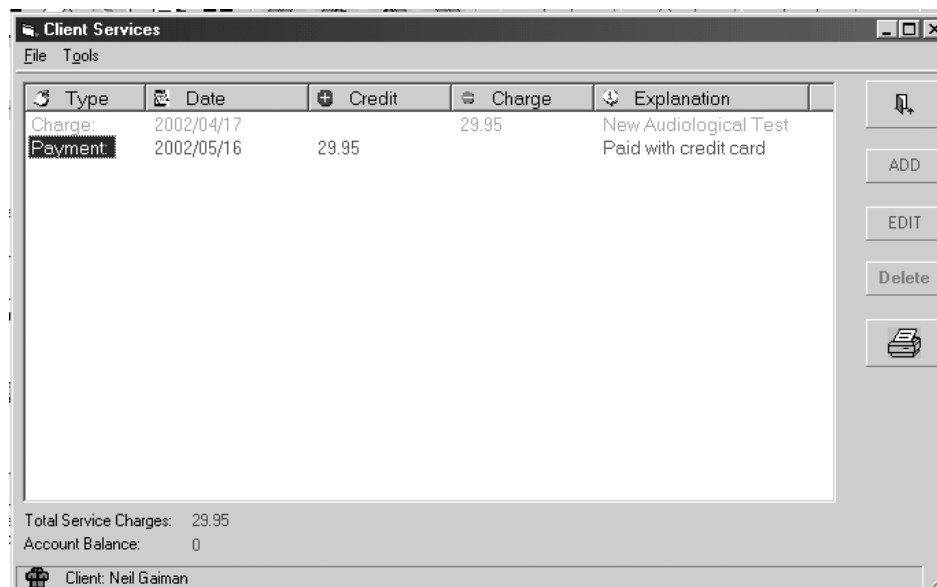

Figure 3.3.1.5—The Client Services window
1. Click on the **Client Services** button below the list of available hearing aids in the lower right corner of the window. This will open the Client Services window shown in Figure 3.3.1.5.